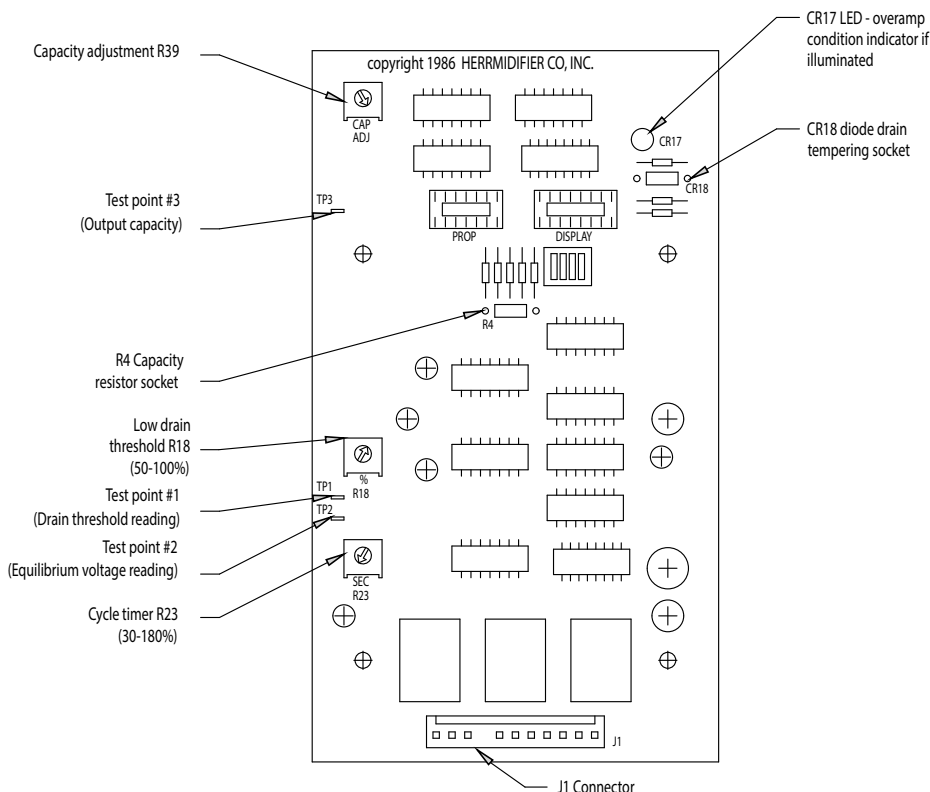

Figure 7
8. All units are equipped with a drain tempering feature which mixes cold fill water with the hot drain water to protect drain piping. Depending on your fill water pressure, some adjustment of the fill metering valve may be necessary to ensure drain water of less than 140°F. (See Figure 5.) To deactivate, remove diode from socket CRI8 from circuit board. (See Figure 7.)
The capacity of the humidifier can be adjusted between 50% and 100% of the maximum level by adjusting the capacity adjustment potentiometer (labeled R39) on the main circuit board. All units are set from the factory to produce 4 lbs/hr. If the psychrometric conditions permit, the 6000—2 may be increased to 8 lbs/hr by adjusting R39 from 50% to 100% capacity. Refer to Figure 7.
Each circuit board (See Figure 7) features three test points to aid in the troubleshooting process. Each of these test points works on a 0-4 VDC scale. "0 VDC" = 0%. "4 VDC" = 100%. All readings are between the test point and ground (Molex J1, terminal 11 [far right of molex connector, wire #11]).
Check water supply. If it is softened, increase the drain threshold pot, "% adj." (R18), up to 92% at 3.68VDC. (See Figure 7, page 11.)